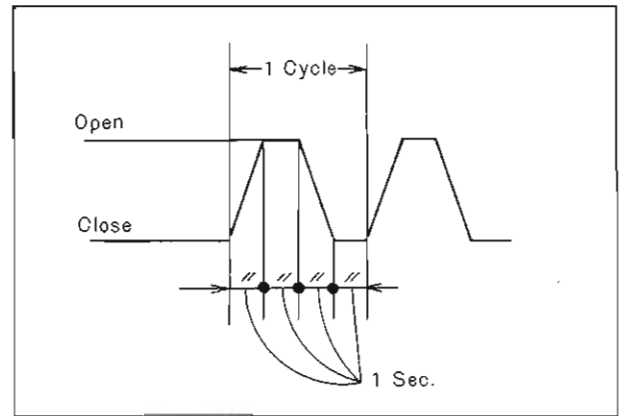

Fig. 4-17 Test pattern
5. Fully operate the throttle valve ten times according to the cycle as shown in Fig. 4-17 by means of the throttle lever or accelerator pedal and check the amount of discharge by reading the decrease of fuel in the burette.